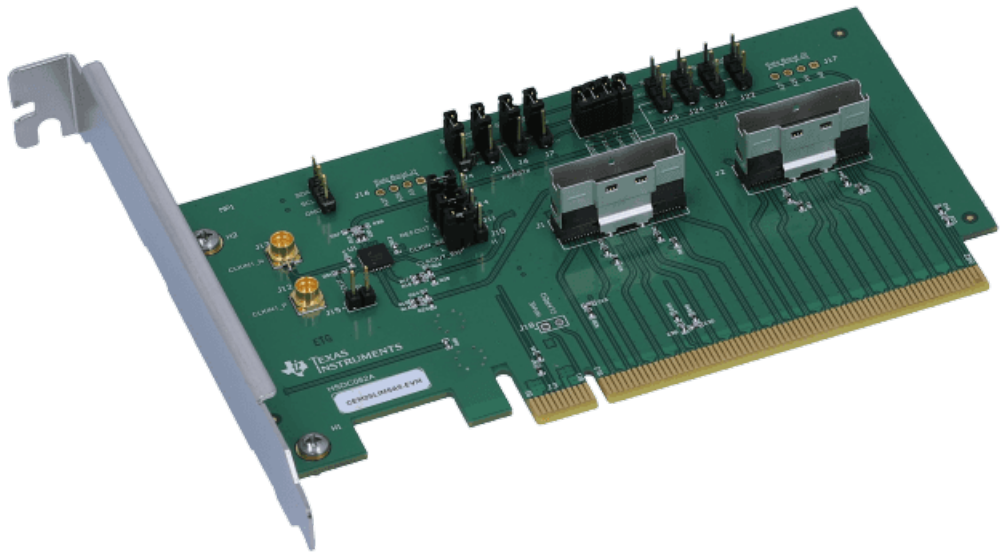

Figure 1-1. DS320-SLIMSAS-EVM – Top Side View
- Check that the shunts are at the following default positions as shown in Figure 1-1.